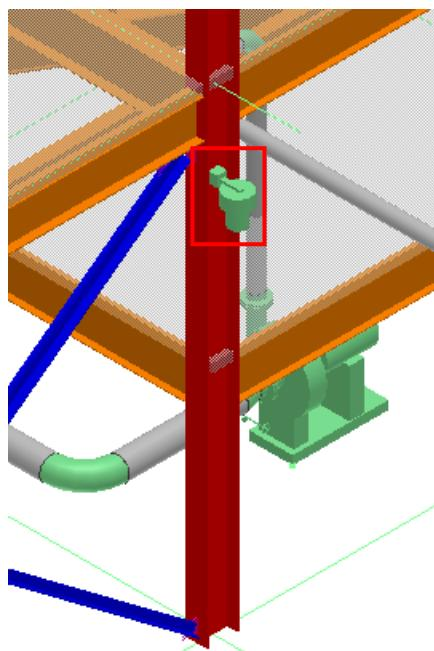

Figure 17: Electrical Light EL-U03-1
11. Click **OK** to place the electrical light **EL-U03-1**. The output should now resemble Figure 17.